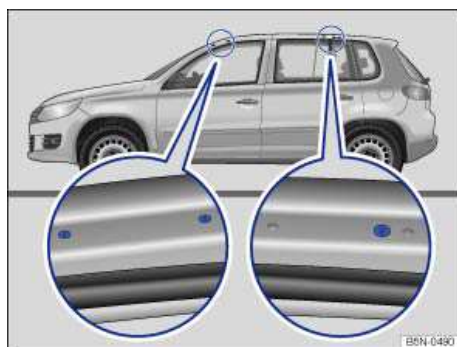
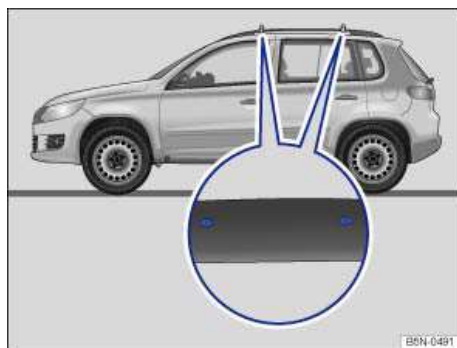

Fig. 109 Vehicles without roof railing: Attachment points for the base carrier and roof rack.
Fig. 110 Vehicles with roof railing: Attachment points for the base carrier and roof rack.
⇒ fig. 109.
The attachment holes are on the inside of the roof railing ⇒ fig. 110 (close-up).
- Mount the roof rack base carrier only at the markings shown in the illustration ⇒ fig. 109 or ⇒ fig. 110.